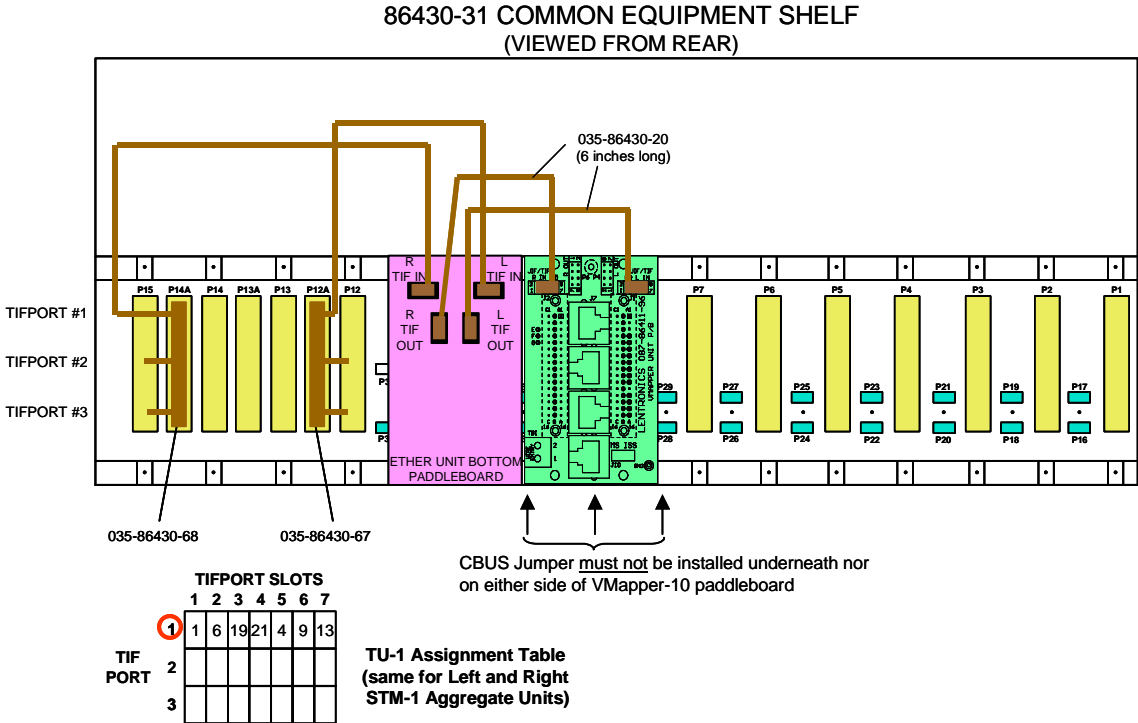

Figure 7: Example of TU-1s dropped on a TIFport not fully utilized (ring application)
The VMapper-10 unit could be installed on the same TIFport that is used by a CMUX or Ethernet unit (provided that not all 7 slots are used on the TIFport). The cascaded units are installed in adjacent shelf slot positions. Cable assembly 035-86430-20 is used to interconnect the cascaded units (Figure 7).
4. Install the VMapper-10 unit paddleboard in the shelf slots adjacent to the paddleboard of the (pair of) cascaded unit(s) (see Figure 7; refer to *Shelf Position and Paddleboard Installation*). Ensure that the CBUS Jumper (087-86430-90) is not installed in the backplane underneath nor on either side of the paddleboard.
5. Establish TIFport cables from the Left and Right STM-1 units' TIFport #1 to the Left IN and Right IN 8-pin headers (P3 and P5) respectively, of the VMapper-10 unit Paddleboard (see Figure 7). (For more information on the shelf connectors and cabling refer to the *TN1U Equipment Shelf TPIM and CA86450 Cable Assembly* drawing).